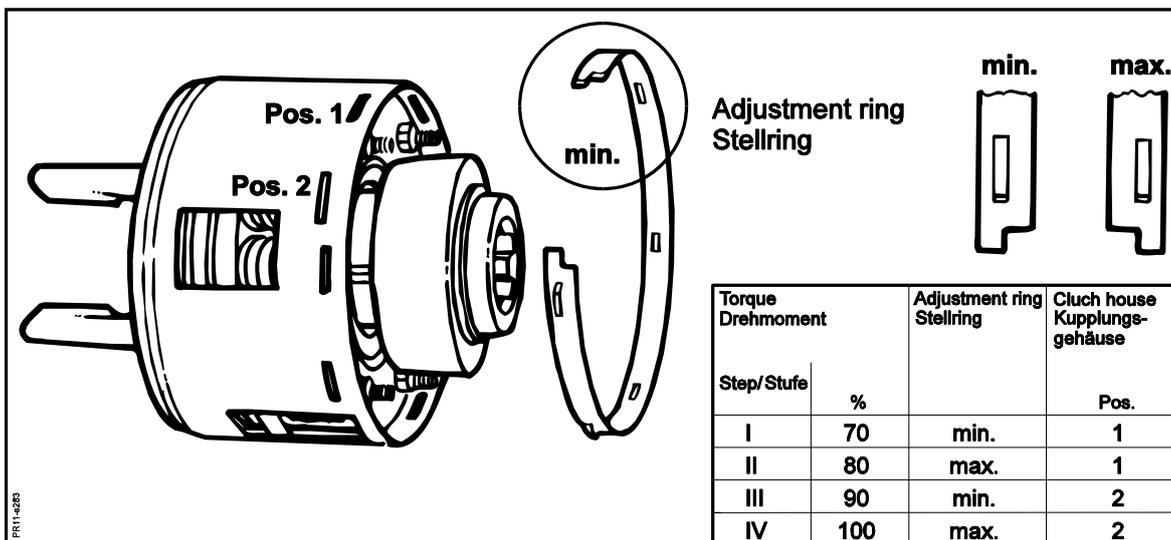

Fig. 6.3
**Fig. 6.3** (Does not apply to the FCT 1100 MK II) The torque setting of the disc clutch can be adjusted in four steps by turning the adjustment ring and by the two different positions in the coupling housing.
2. The coupling house has two different positions in the height to the adjustment ring, **pos. 1 and 2**.